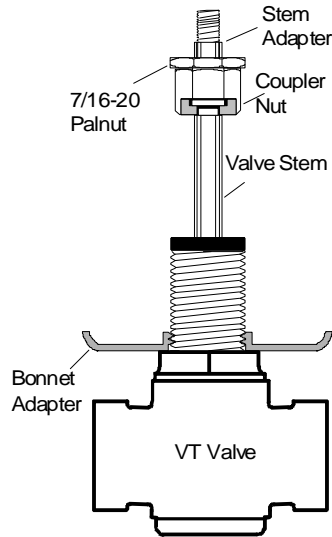

Figure 2: VT Valve with VA-715x Adapter Assembly
2. Thread the bonnet adapter onto the VT valve bonnet. The flat face of the adapter should be snugged tightly against the top of the valve, see Figure 2. If necessary, a pipe wrench may be used to secure the adapter.